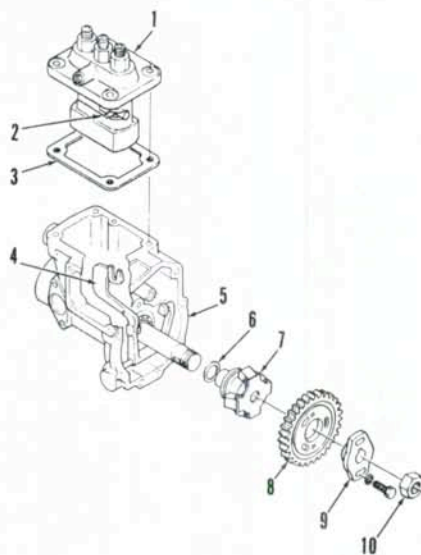

Fig. 120—Exploded view of injection pump and governor case assembly used on Model 1510.
The injection pump (1—Fig. 120) can be removed separately from governor case (5) if desired. Shut off fuel, disconnect fuel inlet line and remove injector lines. Plug all openings to prevent entry of dirt. Remove intake manifold. Remove pump mounting cap screws, then lift pump assembly from governor case.
nut and withdraw drive coupling (9—Fig. 120), drive gear (8), flyweight assembly (7) and shim (6) from injection pump shaft. Disconnect throttle linkage rod from governor lever. Remove cap screws attaching governor case to engine front plate and withdraw governor case.